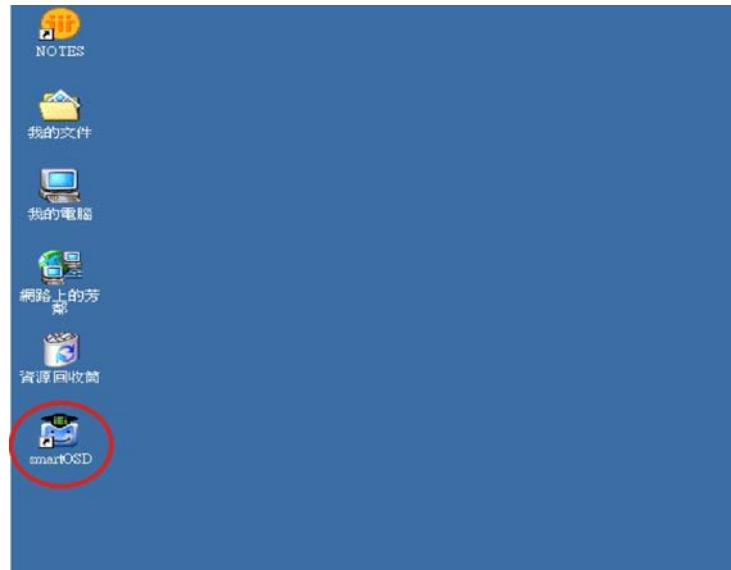

**Figure C-6:** smartOSD Installation Complete
**Step 11:** When the installation is complete the "Complete Installation" screen in Figure C-6 appears.